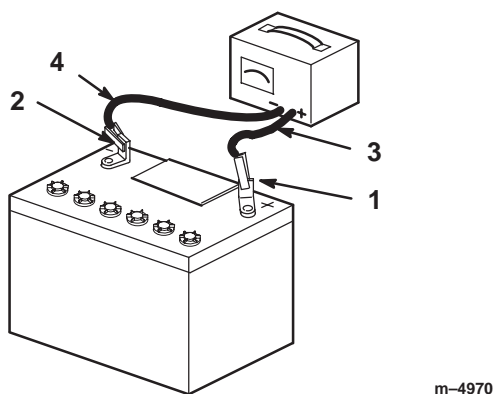

Figure 60
4. When the battery is fully charged, unplug the charger from the electrical outlet, then disconnect the charger leads from the battery posts (Fig. 60).